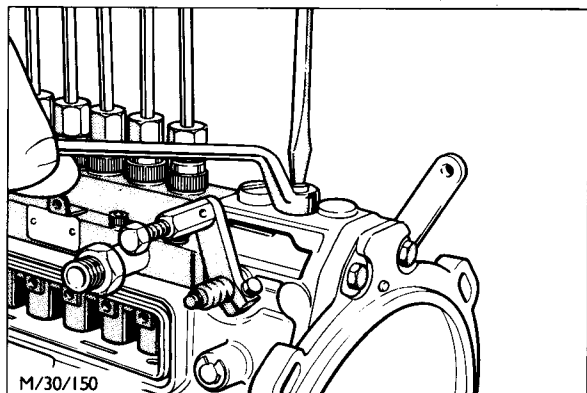
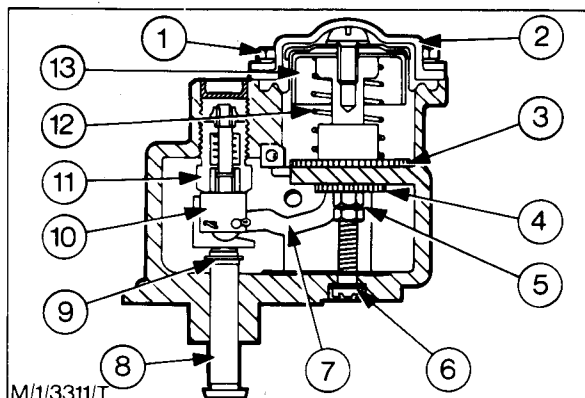

Fig. 16 - Setting the Maximum Fuel Adjusting Screw on a Naturally Aspirated Pump
Fig. 17 - Boost Control Unit
2. If the fuel delivery is not within the specified tolerance but the pump is otherwise serviceable, it is permissible to adjust the fuel delivery to the specified value. For (b) and (c), use the maximum fuel adjusting screw (Fig. 16), and for (d) use the zero boost fuel adjusting screw in the boost control unit (Fig. 17).
5. If necessary, set the maximum fuel adjusting screw for boost control pumps (Fig. 17) to bring the delivery from the master element within the specified tolerance and secure the locknut.
2. Adjust the zero boost fuel adjusting screw (Fig. 17) as necessary to bring the average fuel delivery from all the elements within the specified tolerance. Secure the stop screw with the locknut.